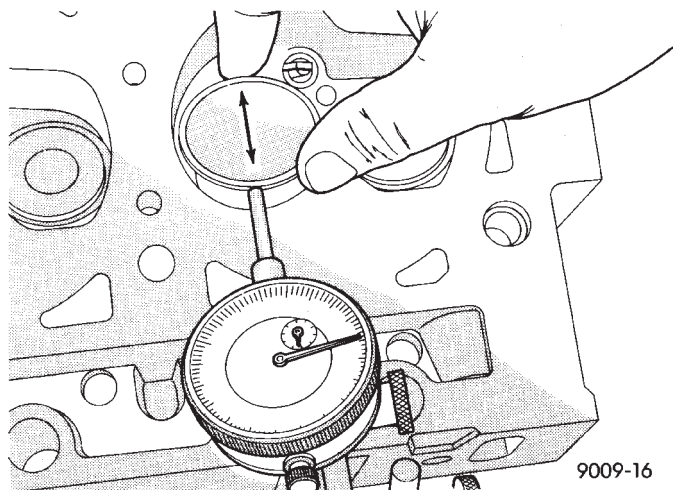

Fig. 17 Measuring Valve Guide Wear
(b) Attach dial indicator Tool C-3339 to cylinder head and set it at right angle of valve stem being measured (Fig. 17).
(1) Coat valve stems with clean engine oil and insert them in cylinder head.
(2) Check valve tip to spring seat dimension A after grinding the valve seats or faces. Grind valve tip to give 49.541 to 51.271 mm (1.950 to 2.018 inch.) over spring seat when installed in the head (Fig. 17). Check valve tip for scoring, if necessary, the tip chamfer should be reground to prevent seal damage when the valve is installed.